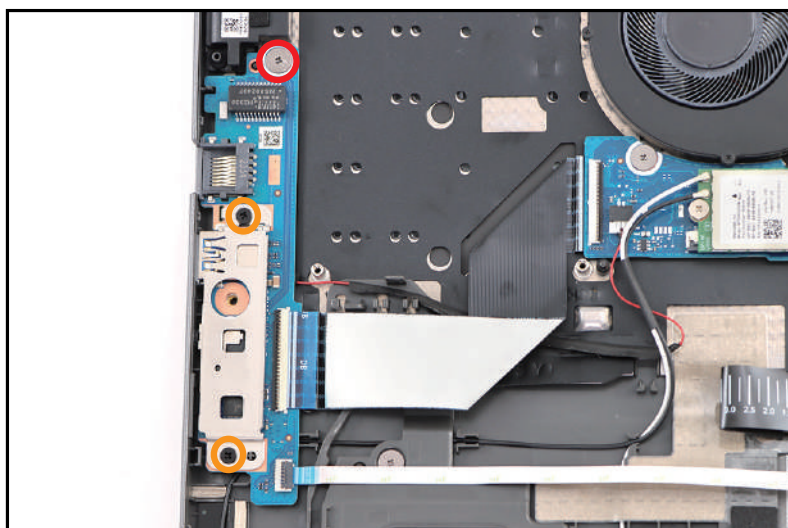

Figure 3-41. USB Board Removal
1. Remove three (3) screws securing the USB board and left IO bracket (Figure 3-41).